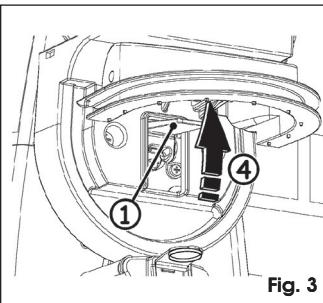

Fig. 3
3. Pull the release lever until it stops, (Fig.3 ref. 1).